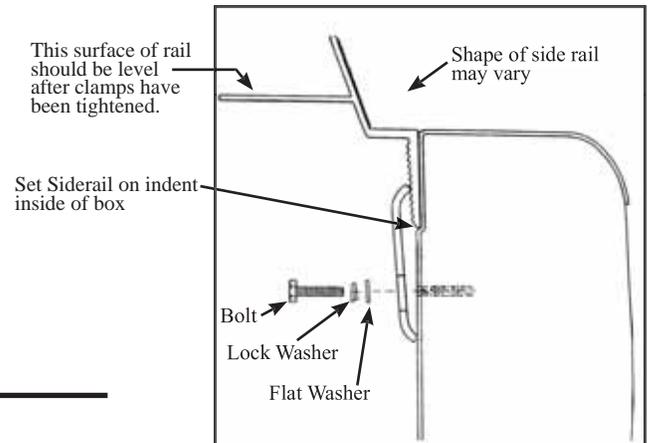

FIGURE 1
1. This kit comes with 4 long clamps and 2 short clamps that attach to existing threaded holes at front, middle, and rear of box. Place cover side rail above indentation along inside of box wall. (SEE FIGURE 1).